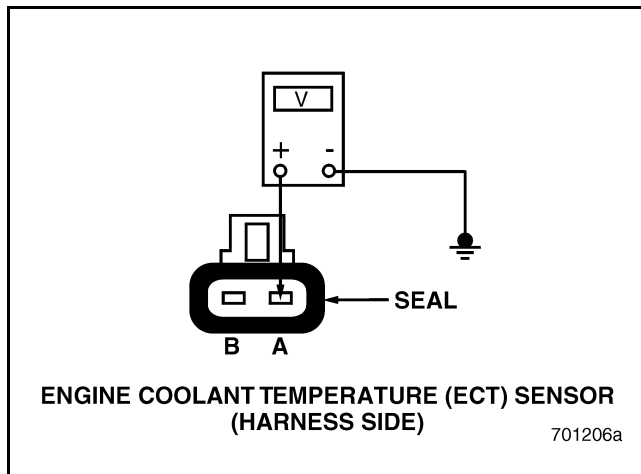

Figure 142
3. Measure the voltage between the ECT Sensor harness connector pin A and a good ground (see Figure 142).